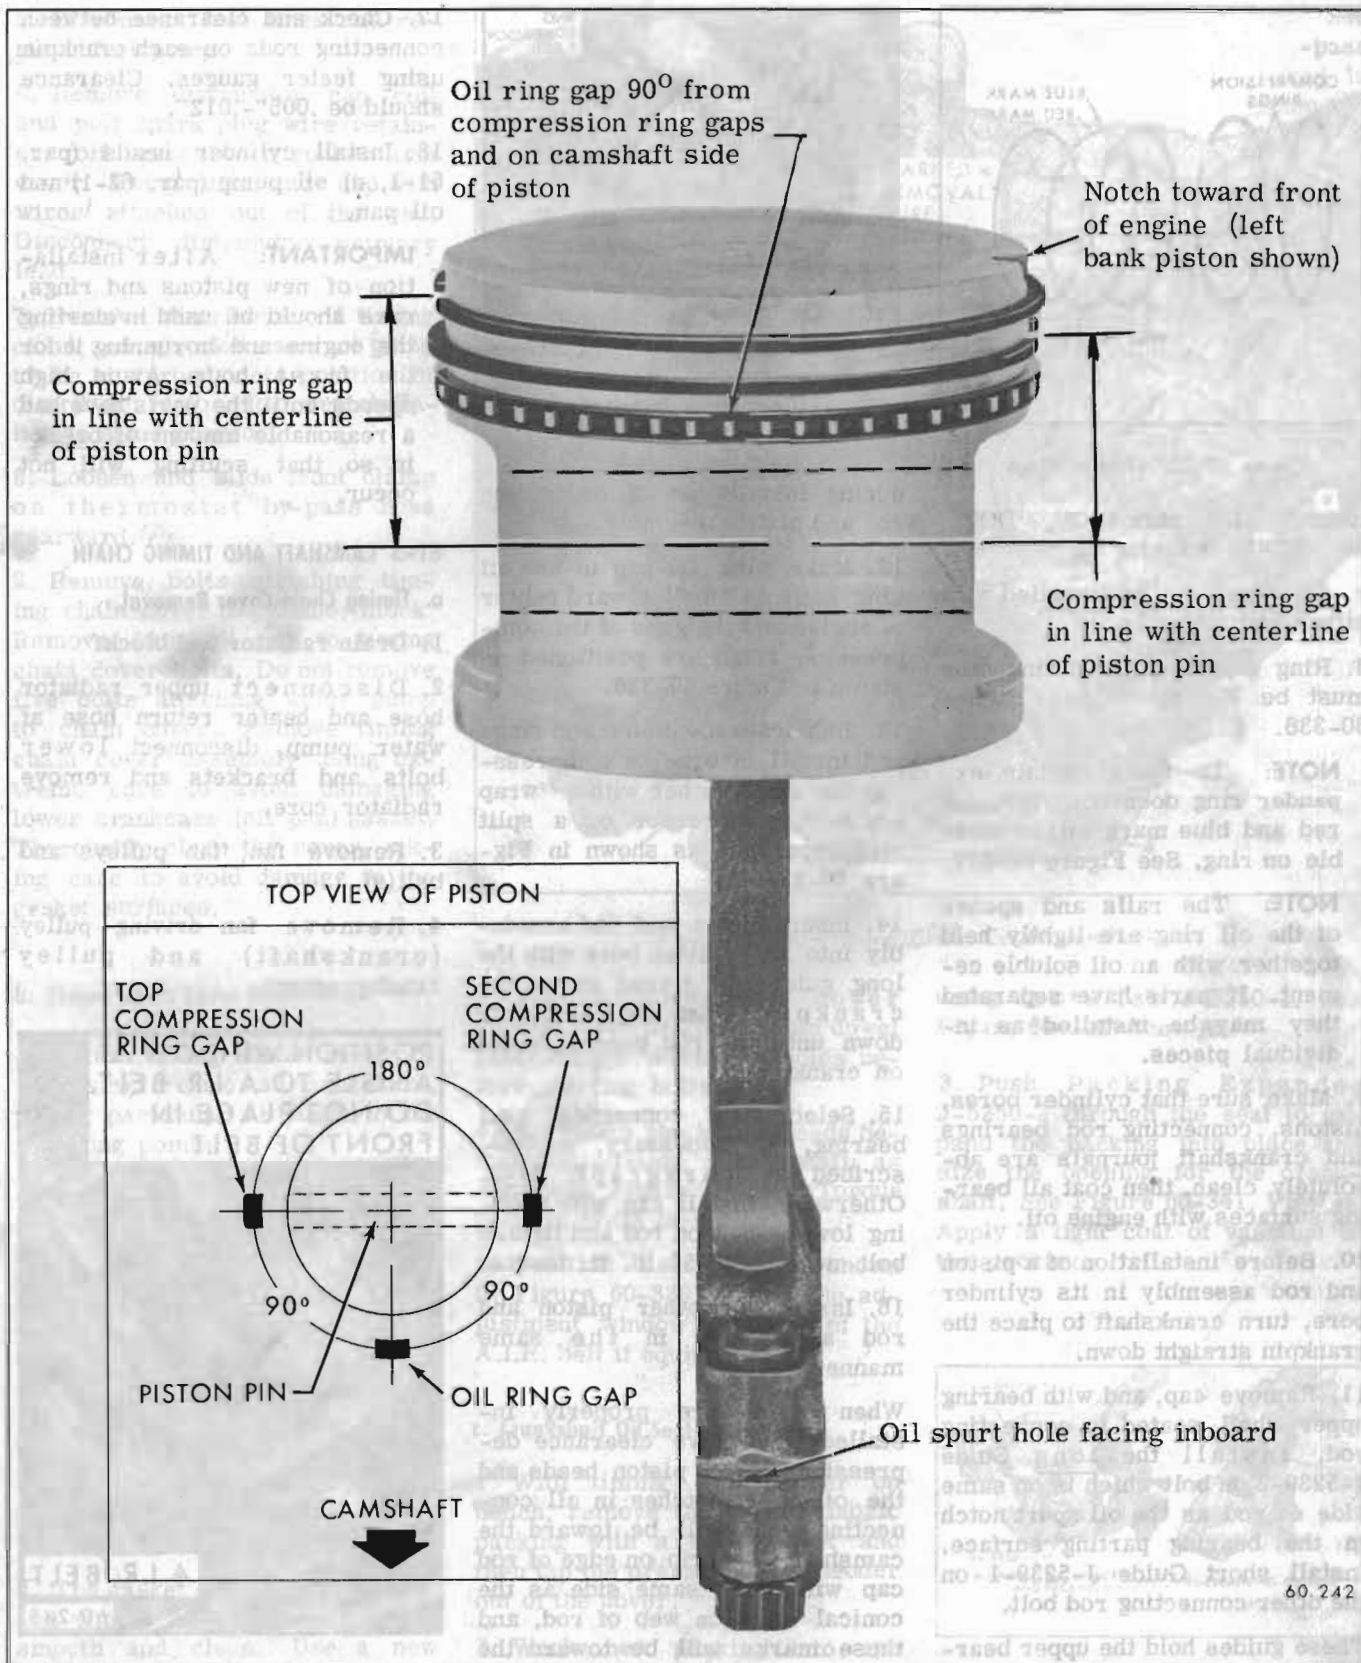

Figure 60-336—Piston Ring Gap Positioning
8. Install piston rings as shown in Figure 60-336.
d. Ring gaps - all three ring gaps must be 90° apart. See Figure 60-336.
12. Make sure the gap in the oil ring rails is "up" toward center of engine and the gaps of the compression rings are positioned as shown in Figure 60-336.